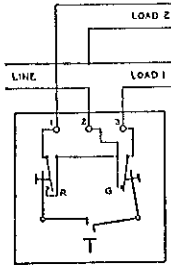

Fig. 5
- (4) One stage of heating and one stage of cooling for processes such as electroplating or varnish cooking where heat must be applied to the bath or cooker when it is below a selected temperature range, but also electrolytic or exothermic heat must be removed by cooling if the temperature should rise above a critical level. (See fig. 5 on page 3.)
- (5) Separate control with provision for signaling in case of excessive overshoot. (See fig. 5 on page 3.)